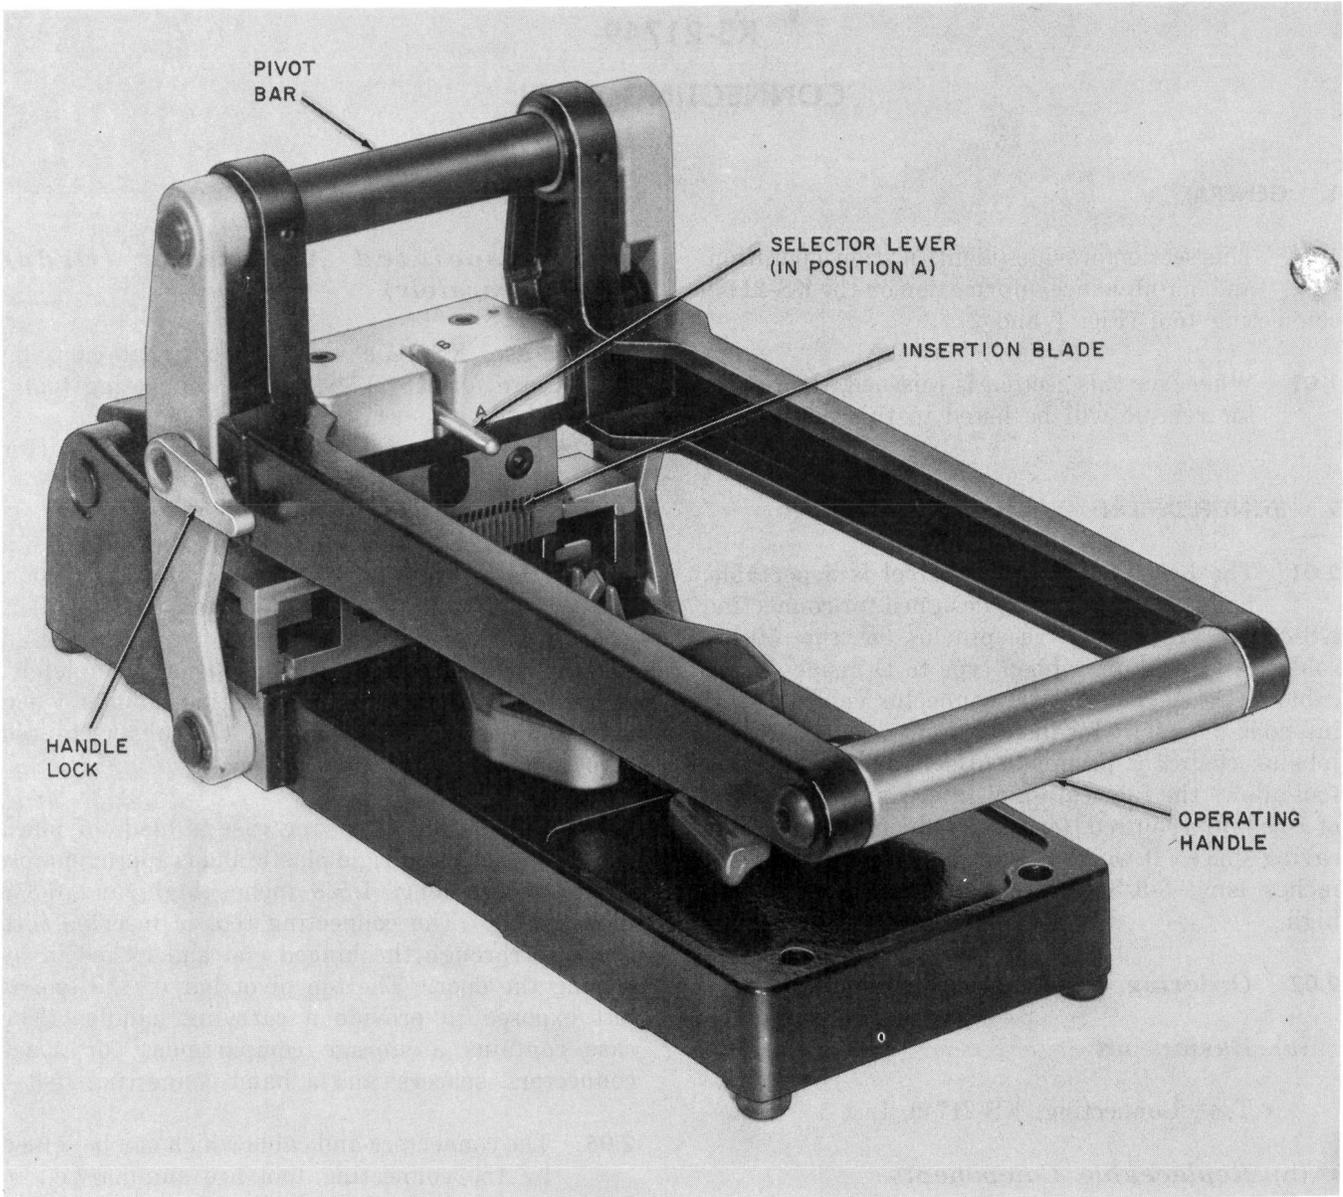

Fig. 1—KS-21749 Connecting Tool, Front View With Handle Closed
1.01 This section provides identification, operation, and maintenance information on the KS-21749 connecting tool (Fig. 1 and 2).
- Insertion blade (Fig. 1) not bent; replace if necessary (4.04)
- (a) Unlock the handle of the insertion tool by flipping the lock up and back from the locking pin (Fig. 1).